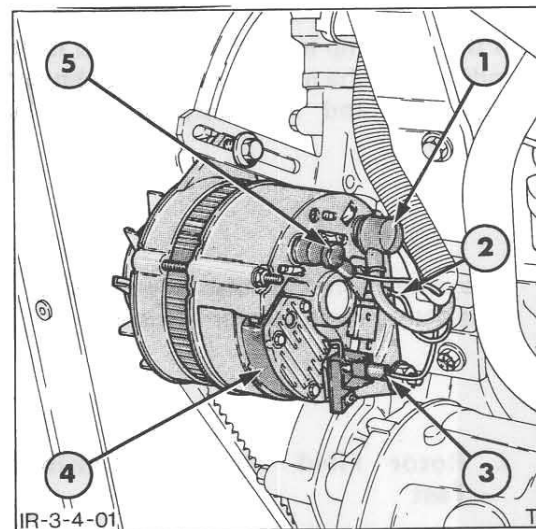

Figure 18
3. Disconnect all leads to the alternator. Refer to Figure 18.